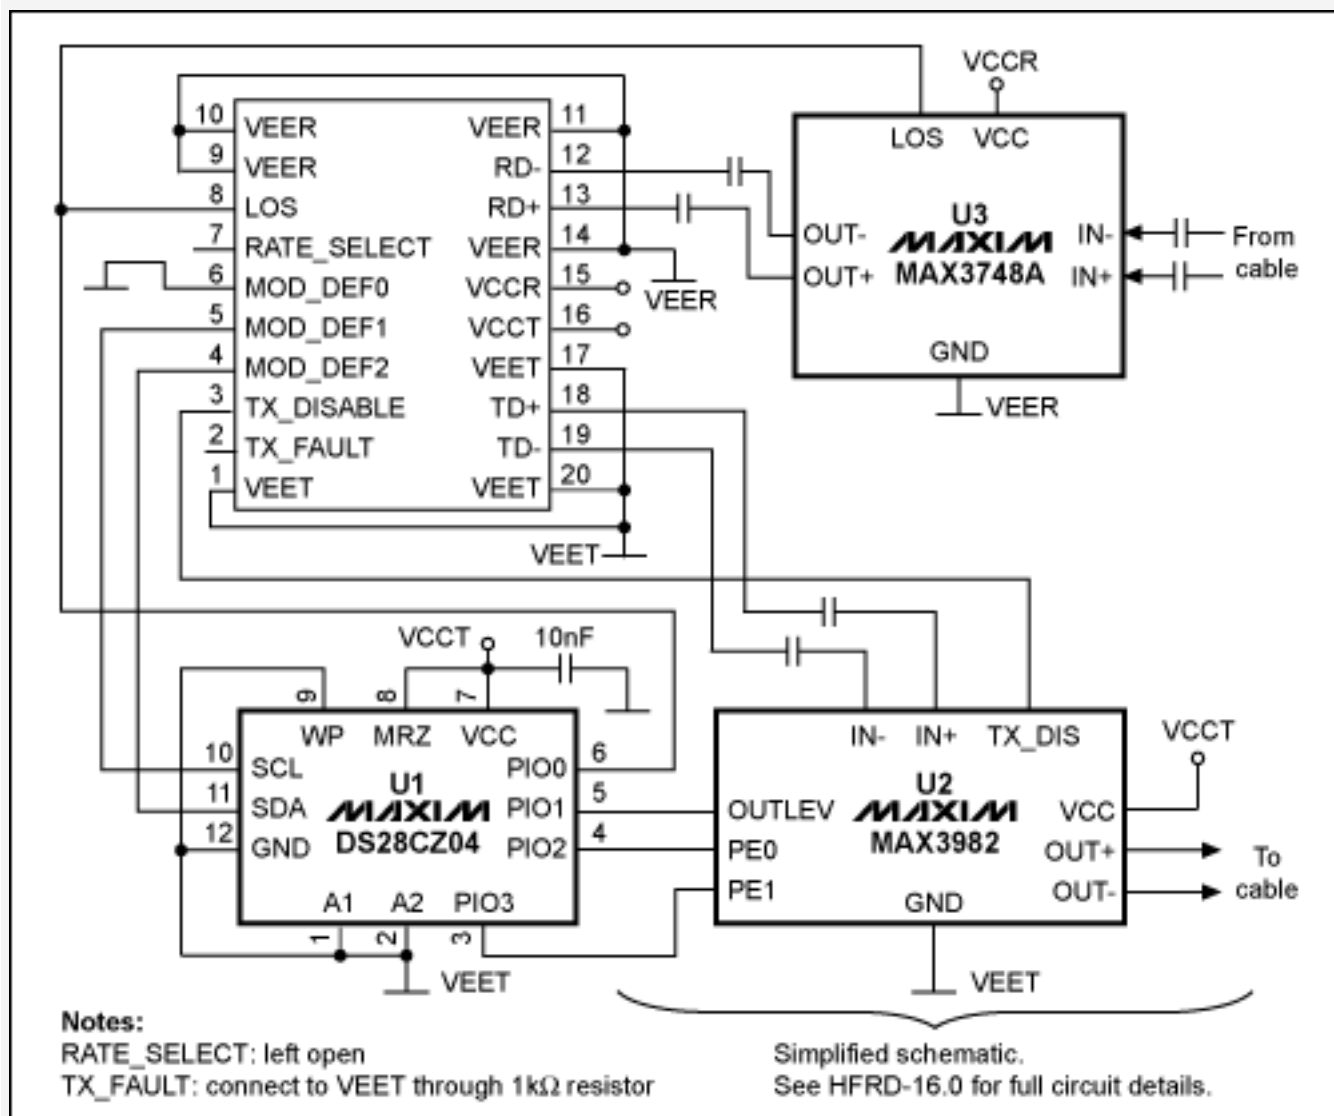

Figure 1. Simplified schematic of the DS28CZ04 in an active copper SFP cable assembly.
Figure 1 shows the simplified schematic of the circuit used at either end of the cable. The box at the top left section represents the SFP connector with all signals and pin assignment. A cross reference between pin name and signal function is found in **Table 1**. The DS28CZ04 I²C memory chip connects to MOD-DEF1, MOD-DEF2, and transmitter power/ground. To reside on the correct SFP slave address, the address pins A1 and A2 need to be tied to ground. Write protect (WP) and master reset (MRZ) are not used; these pins are tied to ground (WP) and power (MRZ), respectively. PIO2 and PIO3 control the preemphasis inputs of U2, the MAX3982³ driver chip. The transmit data is routed AC-coupled from the SFP connector to the differential inputs of U2. The differential outputs directly drive the cable. The amplitude of the differential output can be set to one of two levels through the OUTLEV input, which is controlled by PIO1. For further information on how the remaining pins of U2 are connected, see the HFRD-16.0 document cited above.